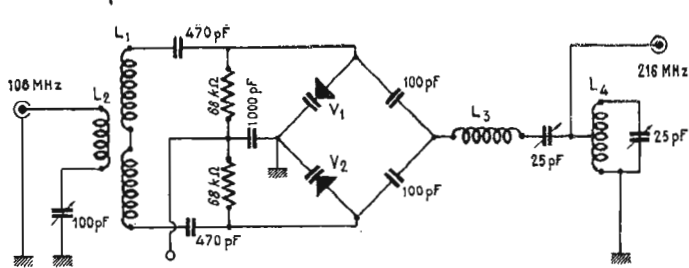

Fig. 6. — Doubleur push-pull 108.216 MHz
2. DOUBLEUR 108-216 MHz (push-pull) (fig. 6)